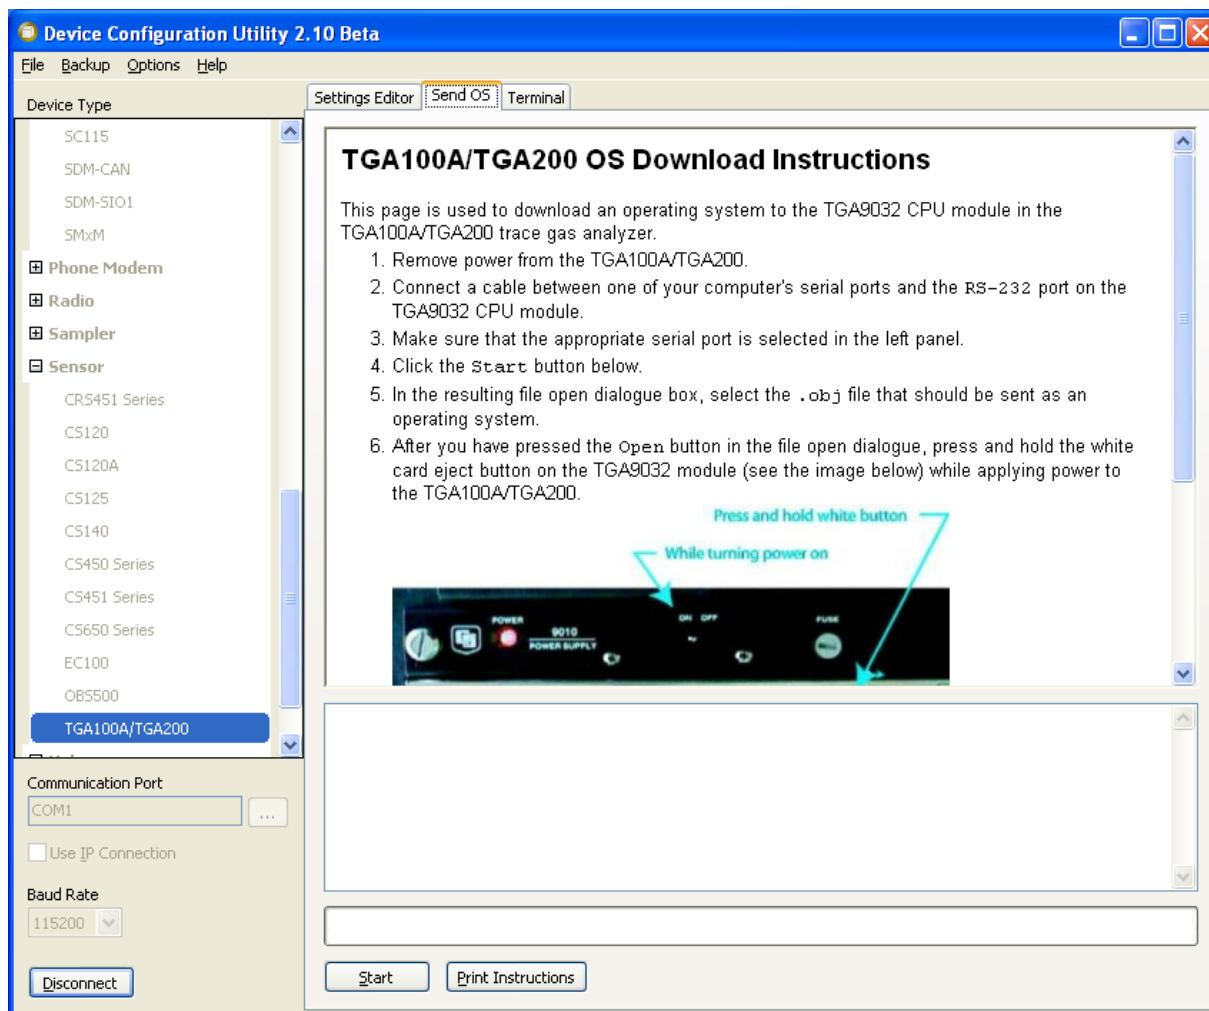

FIGURE 6-19. TGA100A/TGA200 OS download instruction
4. Select the *Send OS* tab and follow the directions (FIGURE 6-19) to send the new operating system to the TGA.